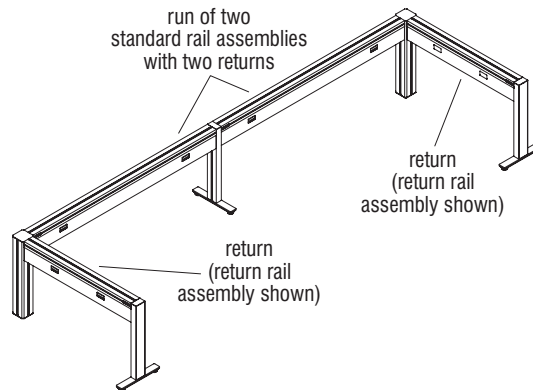
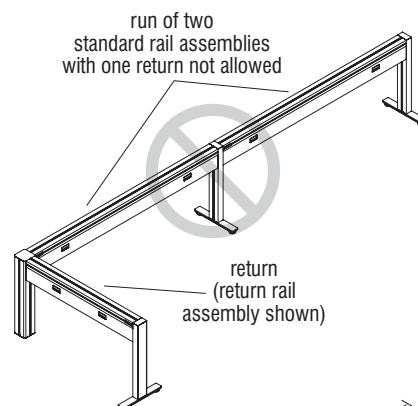

Figure 20
Figure 22
- If a second or third rail assembly is to be added inline to the first standard rail assembly, another return must be added to the second or third rail for stability (Figures 20, 21 & 23). Two in-line standard rail assemblies cannot be supported by one return worksurface or return rail assembly (Figure 22).